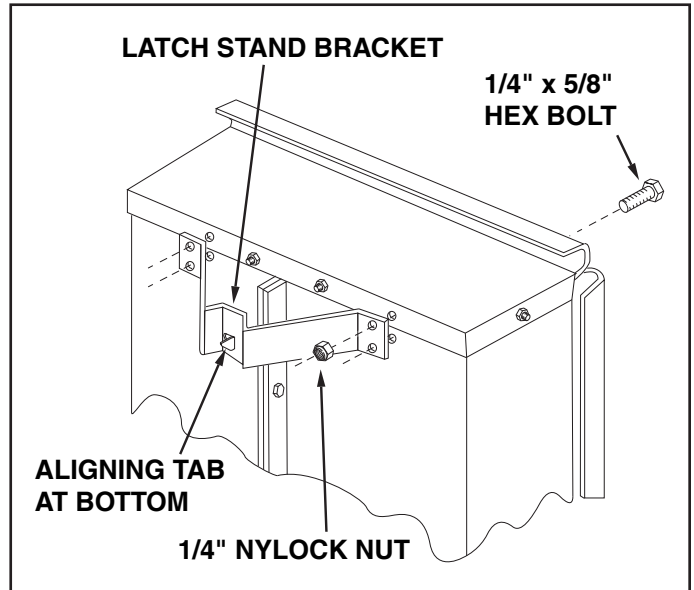

FIGURE 7
- Turn the latch stand bracket so that the aligning tab is at the rear (bottom) of the bracket. Assemble the latch stand bracket to the cart using four 1/4" x 5/8" hex bolts and 1/4" nylock nuts. **TIGHTEN**. See figure 7.